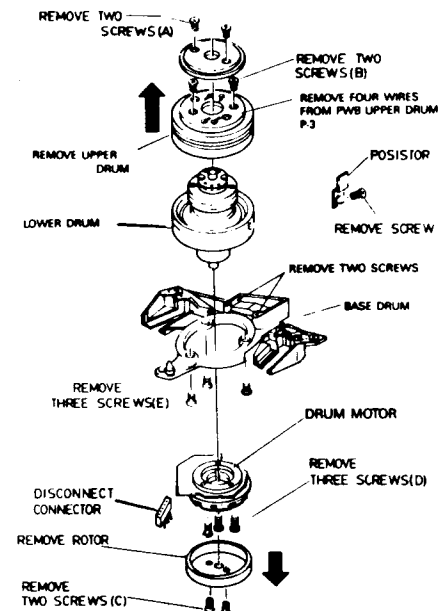

Fig. 29
3. Remove two (A) screws holding the upper drum cover, (Fig. 29).